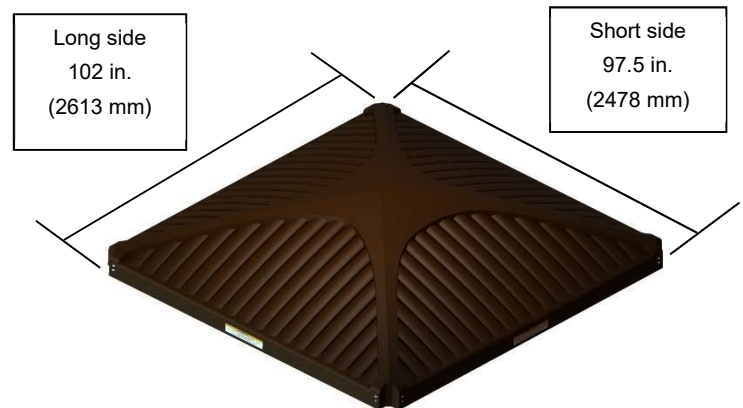

Figure 50
- 2) Place the top section of the COVANA cover on the hot tub and center it as best as possible. Measure your hot tub's dimensions and put the long side of the COVANA cover on the longest side of the hot tub. (Figure 50) If a LED light kit is included, the light switch should be placed on the entry side of the hot tub.
Note: The cover is rectangular. (Figure 50) The standard model will need the motor frame to be on the short side of the COVANA cover, whereas the long-side will need the motor frame on the long side of the COVANA cover.